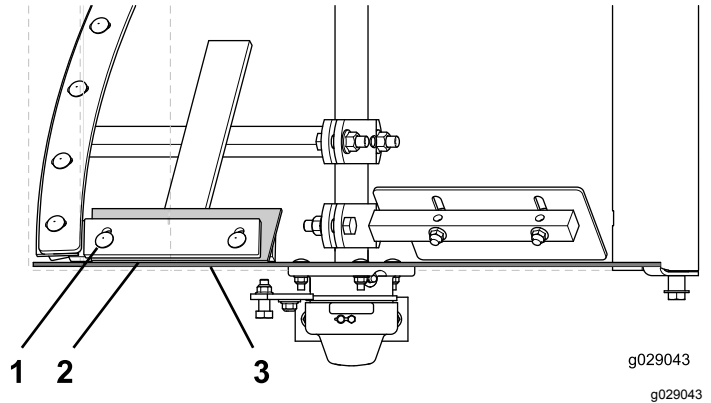

Figure 71
- Loosen the carriage bolts and flanged locknuts that secure the paddle blade and wiper to the fixed paddle. (Figure 71)